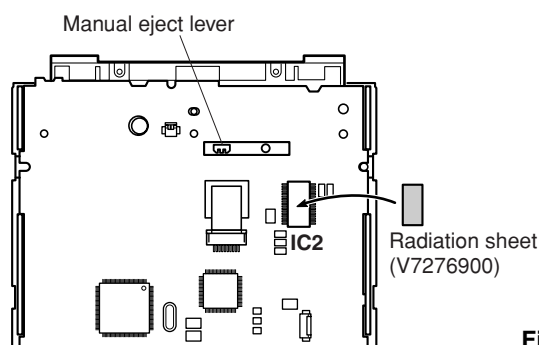

Fig. 5
- To open the tray, move the manual eject lever located on the bottom face. (Fig. 5)
- Attach the radiation sheet to the IC2 located on the bottom face of the new CDR mechanical unit. (Fig. 5)